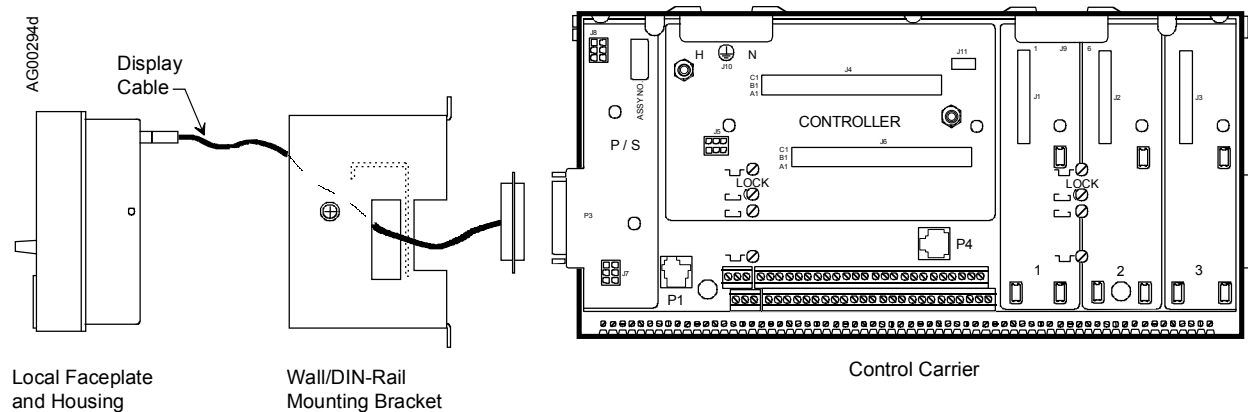

FIGURE 1 Local Faceplate Connection to Control Carrier
The installation must be structurally rigid and allow sufficient access to the installed faceplate for reading the displays and manipulating the pushbuttons and pulser knob. Figure 1 shows the faceplate to control carrier connection. The Wall/DIN-Rail Bracket is mounted first and the cable connected to the control carrier. Next, the cable is routed through the Bracket and connected to the faceplate. The faceplate is then fastened to the Bracket.
3. Refer to Figure 1 and connect the remote display cable to the Control Carrier connector.